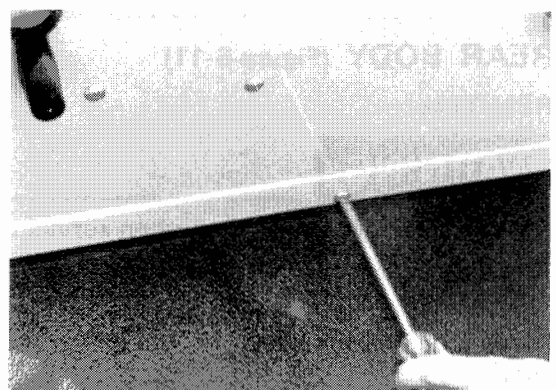

Figure 5-13
3. Remove two screws (15) located at rear (**Figure 5-13**).
2. Loosen 2 bolts in rear body kick plate (**Figure 5-13**) and remove rear edge of floormat from between rear body and floor panel.